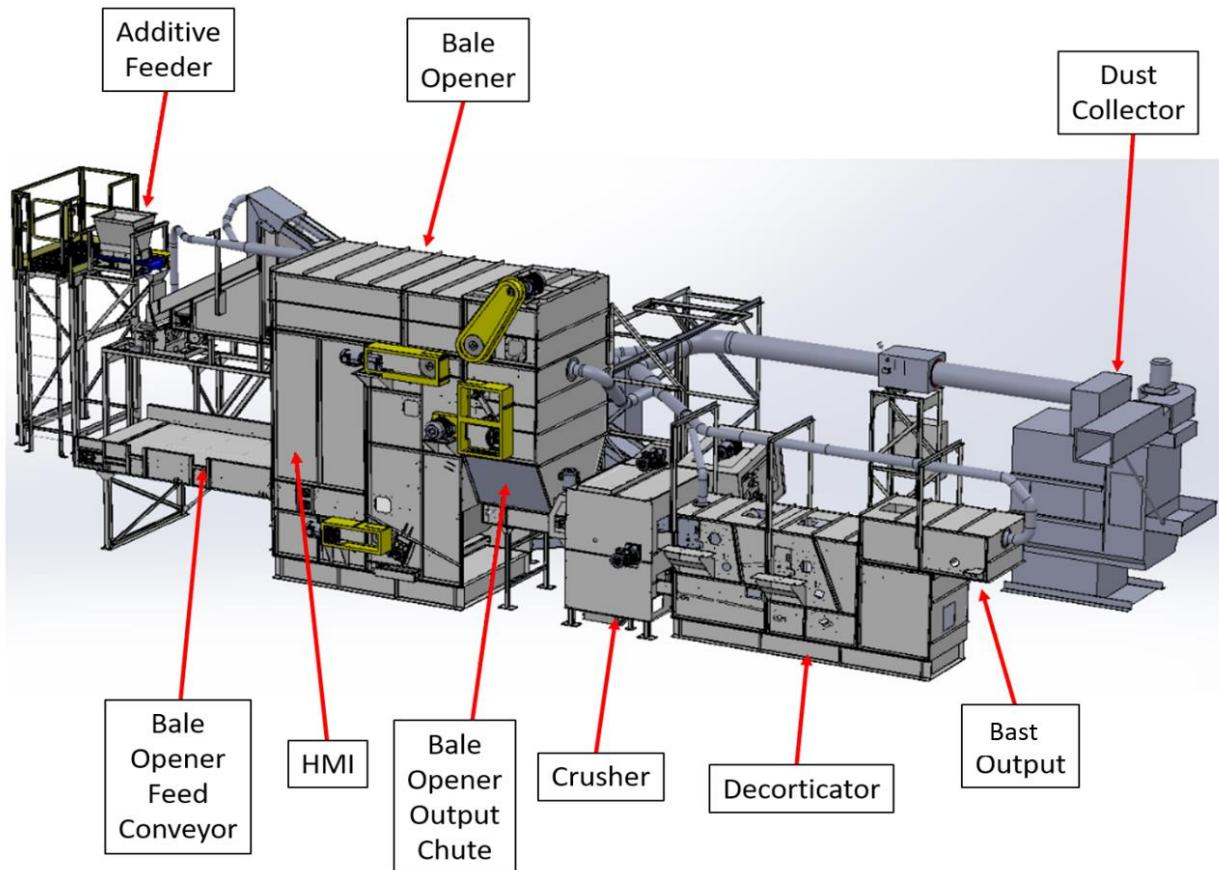
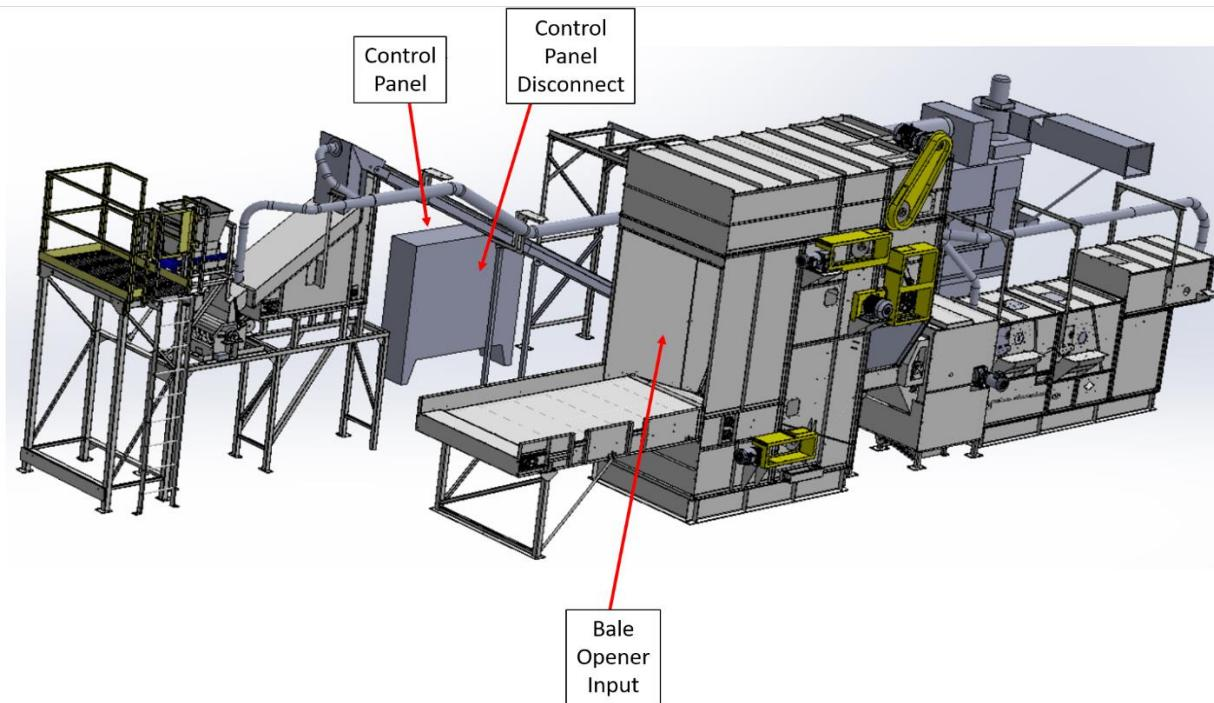
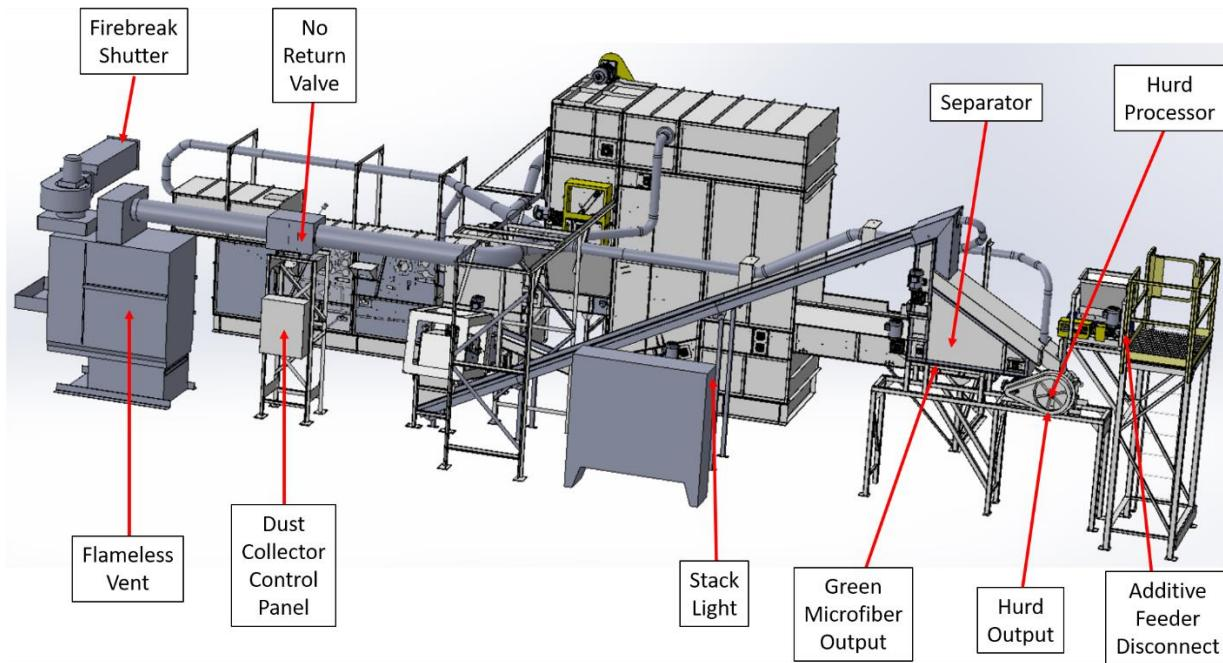

Figure 1 - HempTrain™ Advanced Processing Plant - profile 1
Figure 2 - HempTrain™ Advanced Processing Plant - profile 2
Figure 3 - HempTrain™ Advanced Processing Plant - profile 3
Rev. 01.02	January 6, 2020 – Edited Figure 1
- Falling into the bale opener (**Figure 2**) when it is not operating may result in severe injury.
- NEVER allow people to come between a bale and the input to the bale opener. If the bale rolls or collapses, it will crush people against the spiked apron (**Figure 2**).
- Main control panel disconnect (**Figure 2**) – locks out all motors, including the additive feeder;
- Additive feeder disconnect located next to the additive feeder motor (**Figure 3**) – locks out additive feeder.
Though HempTrain™ is equipped with an advanced dust control system (**Figure 1**), evolution of nuisance dust is inevitable when handling agricultural products. Protect yourself with a properly fitted P100 filter mask.
Hemp and hemp dust are flammable. Under certain conditions, hemp dust can be explosive. The HempTrain™ dust collector (**Figure 1**) has fire and explosion mitigation systems (No Return Valve, Flameless Vent and Firebreak Shutter - **Figure 3**). Do not operate HempTrain™ unless all of these systems are functioning properly. To prevent secondary explosions, clean up nuisance dust, even from difficult-to-reach surfaces.
- The additive feeder (**Figure 1**) is accessed by a ladder and safety gate. Use care when climbing and **ALWAYS** close the safety gate;
It may be necessary to enter the bale opener input (**Figure 2**) to remove feedstock. The feed conveyor is steep and may be slippery. If you must enter the bale opener input,
HempTrain™ is equipped with a touch-screen control to access all functions of the system, located near the input to the Bale Opener (**Figure 1**). The control uses separate passwords for Operators and for Senior Operators. The passwords cannot be changed – they exist only to provide a basic level of access control, not security. If the passwords have been lost or forgotten, contact Canadian Greenfield Technologies Corp. customer support. The Operator password is 4321.
To start the system, place a bale on the feed belt of the bale opener (**Figure 2**). Remove any string, rope, banding, webbing or any other packing material. Do NOT pass between the bale and the entrance to the bale opener – if the bale shifts or collapses, you will be crushed against the spiked apron (**Figure 2**).
Place collection devices (bags, boxes, conveyors) under the fiber output (**Figure 1**), green microfiber output (**Figure 1**) and hurd output (**Figure 1**). The system has been designed to accommodate output containers on standard pallets so you can quickly replace filled containers. If you are using duffle-top bags, pull the duffle-tops up around the outputs to reduce the escape of dust. The fiber output has hooks to support the handle loops on bags; for the hurd and green microfiber outputs, place the aluminum bag supports across the support frame to support the handle loops.
Commence by pressing the START button. The system status will update to STARTING and the audible alarm will sound for 10 seconds so people have time to step back from the machine or press an Emergency Stop if they believe that start-up would be unsafe. The system will start up its components in the correct order, with time delays as required to prevent jamming. The start-up can be instantly stopped at any time using any Emergency Stop button including the one mounted on the HMI cabinet (**Figure 1**). If you have any misgivings about the start-up (for example, collection devices not in place), depress the E-STOP button. The system is designed to recover cleanly from an emergency stop, and this is generally less trouble than letting the system start all the way up just so you can shut it down.
You can rapidly advance or remove the bale from the bale opener (**Figure 2**) using the fast Forward and fast Reverse push buttons:
You can temporarily increase or decrease the feed rate into the bale opener (Figure 2) using the CONTROLS screen:
To add a bale, wait until enough of the current bale has been consumed that you can place another bale on the feed conveyor (**Figure 1**). Remove all string, rope, banding, webbing or any other packing material.
The green microfiber is the densest of the output streams. Place the new container on a pallet and use two pallet jacks and two operators to speed change-out and minimize spillage. Do not overfill green microfiber container (**Figure 3**).
The hurd stream is less dense than the green microfiber stream, but Canadian Greenfield Technologies Corp. still recommends using pallets to support the containers. Place the new container on a pallet and use two pallet jacks and two operators to speed change-out and minimize spillage. Do not overfill hurd container (**Figure 3**).
The fiber stream is very light. If you are using containers to collect the fiber, you can compact the fiber in the container (using a broom or other tool) to increase the time between container changes. The fiber container is often light enough to be changed out by a single operator, but there will be less spillage if two operators are used. Do not overfill fiber container (**Figure 3**).
To stop the system, press the STOP button on the HMI (**Figure 1**). The system status will change to STOPPING. The system will shut off its components in sequence so as to remove all product from the system downstream of the spiked apron (**Figure 2**).
When an alarm is raised, go to the main screen on the HMI (**Figure 1**) and press the Alarms button; the Alarms page displays: